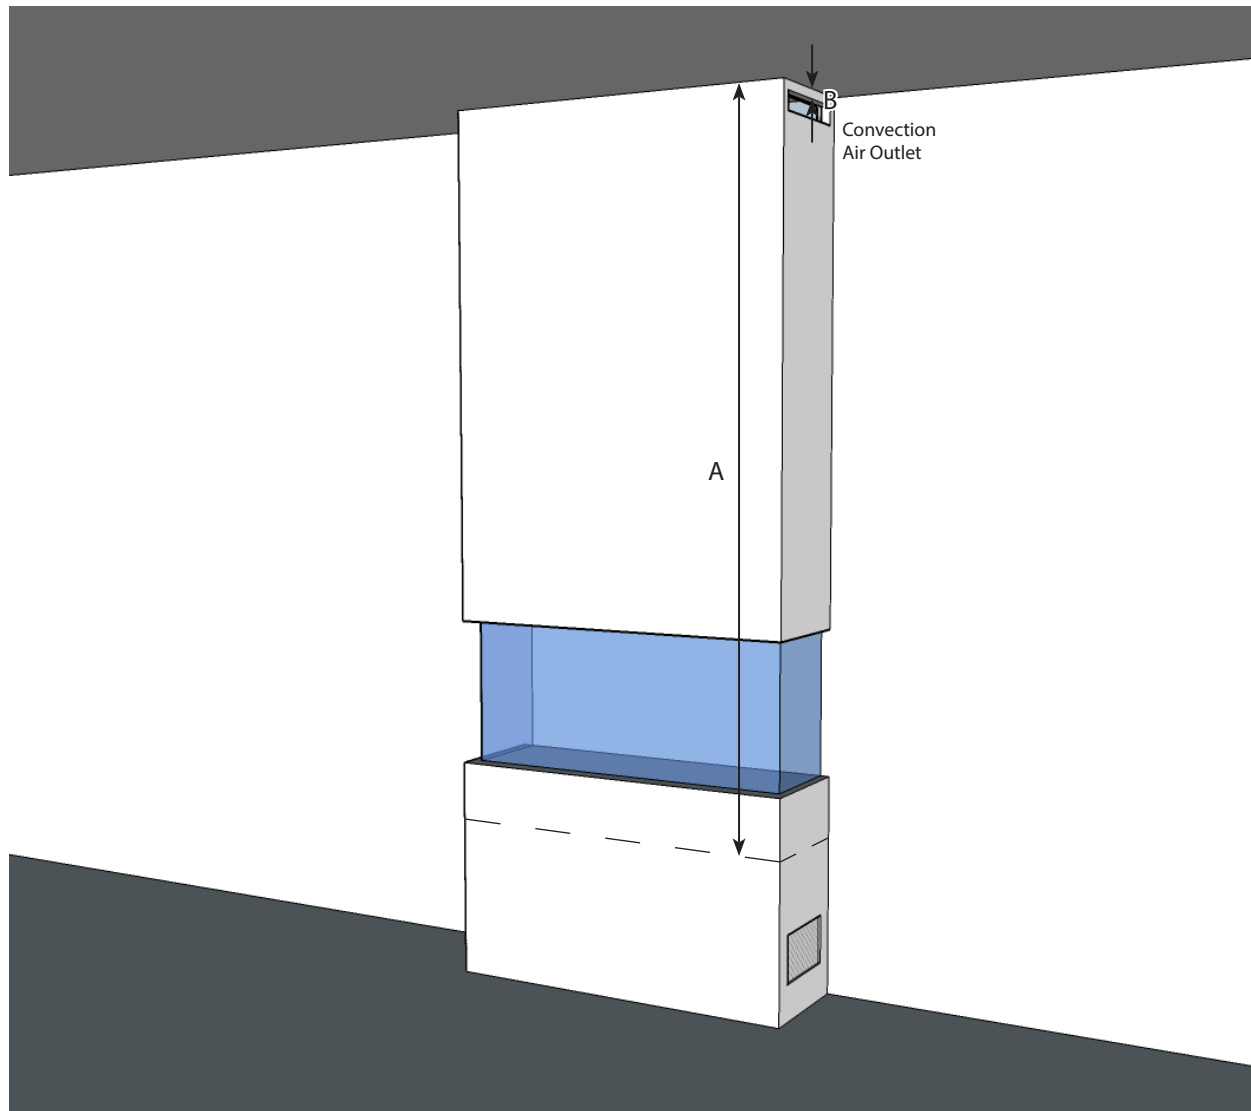

Figure 18
- The minimum distance from the bottom of the appliance to the room ceiling is 72"/1830 mm. (See Figure 18, Table 2)